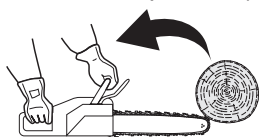

Fig. 32
In some cases, contact with the tip of the guide bar (4) may cause a lightning-fast reverse reaction, kicking the guide bar up and back toward the operator (Figs. 32 - 34).